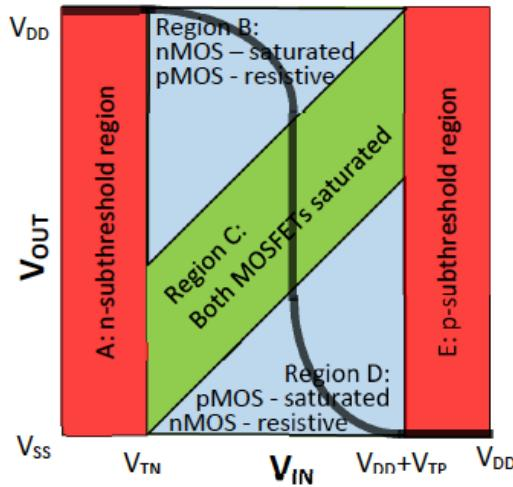

Figure 5.3: The CMOS inverter voltage transfer curve (VTC) with regions marked.
In Figure 5.1 you see the graphs of I_{DS} vs V_{OUT} , for the nMOS and pMOS FETs in a CMOS inverter. Match the three nMOS characteristics (a) through (c), shown to the left in in Figure 5.1. with the pMOS characteristics, (d) through (f) that corresponds the same input voltage. Then mark the corresponding bias points in the three voltage transfer curves (g) through (i) to the right. For more details on the red, blue, and green VTC diagrams refer to Figure 5.3.
- In the diagram of CMOS inverter regions shown in Figure 5.3 mark each of these three bias points with B, C, or D, depending on the region of operation in the V_{OUT} vs V_{IN} graph to which they belong.
- Add a secondary axis representing the “short-circuit” current through the inverter as shown in Figure 5.3. Sketch the “short-circuit” current through the inverter vs. V_{IN} based on your knowledge about the current through the current-limiting MOSFET.